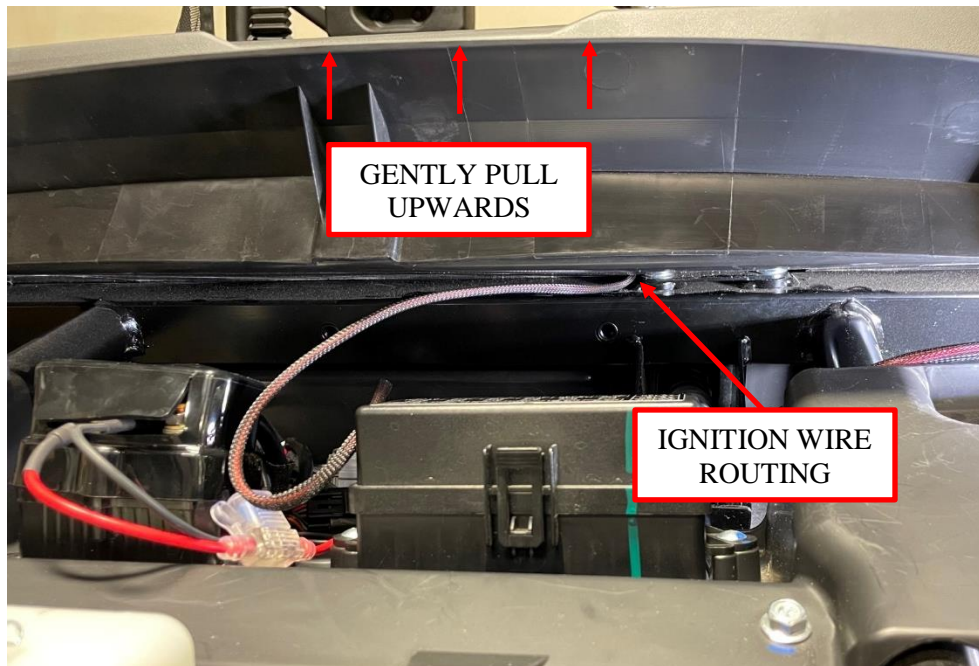

Figure 15: Ignition wire routing to center of dash area.
17. Route the orange ignition wire from the *Audio Mini* chassis harness into the opening between the plastic panels by gently pulling upwards on the top panel and feeding the connectors towards the center area in the dash. See Figure 15.